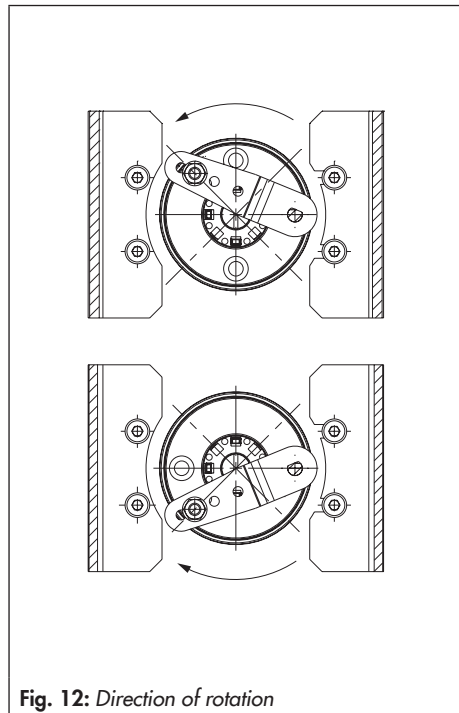
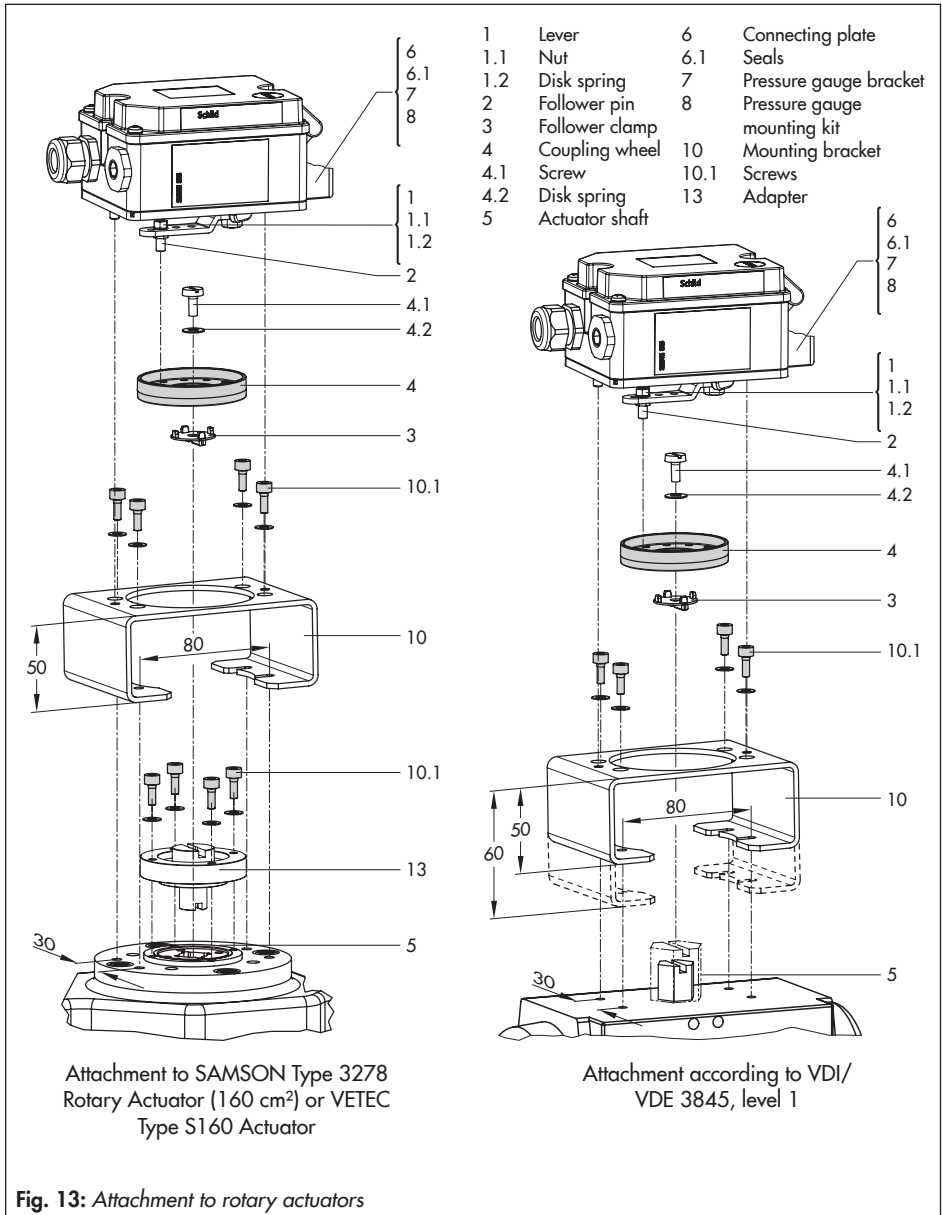

Fig. 12: Direction of rotation
Fig. 13: Attachment to rotary actuators
- ➔ Before attaching the positioner onto the SAMSON Type 3278 Rotary Actuator (160 cm2) or VETEC Type S160 Actuator, first mount the adapter (13) to the free end of the shaft end using four screws (10, 1).
1. Place follower clamp (3) on the slotted actuator shaft or adapter (13).
2. Place coupling wheel (4) with flat side facing the actuator on the follower clamp (3). Refer to Fig. 12 to align slot so that it matches the direction of rotation when the valve is in its closed position.
3. Fasten the coupling wheel (4) and follower clamp (3) tightly onto the actuator shaft using screw (4.1) and disk spring (4.2).
4. Mount connecting plate (6) or pressure gauge bracket (7) with pressure gauges (8) on the positioner, making sure the two seals are seated properly.
5. Fasten the mounting bracket (10) to the actuator using four screws (10.1).
6. Unscrew the standard follower pin (2) from the positioner's M lever (1). Use the metal follower pin (Ø 5 mm) included in the mounting kit and screw tight into the hole for pin position 90°.
7. Place positioner on the mounting bracket (10) and fasten tight. Taking the actuator's direction of rotation into account, adjust lever (1) so that it engages in the slot of the coupling wheel (4) with its lower pin (Fig. 13).
- ➔ The lever (1) must be parallel to the long side of the positioner when the actuator is at half its angle of rotation.
8. Stick the scale plate on the coupling wheel (4) so that the arrow tip indicates the closed position and it can be easily read when the valve is installed.